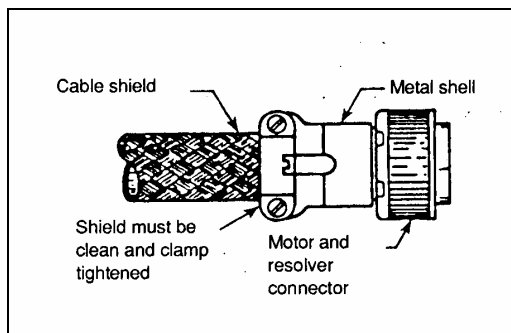
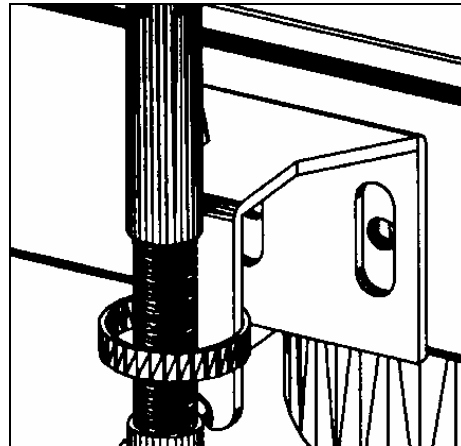

Fig 2.2 – Grounding of shield To connectors at motor side
Fig 2.3 Grounding of shield to housing
- Motor power cable (see Fig 2.2 & Fig 2.3)
- Encoder cable (see Fig 2.2)
- Resolver cable (see Fig 2.2)
The insulation on the shield of the cable must be stripped back and the shield RF connected to the stand-off through the hose clamp, as in Fig 2.3.